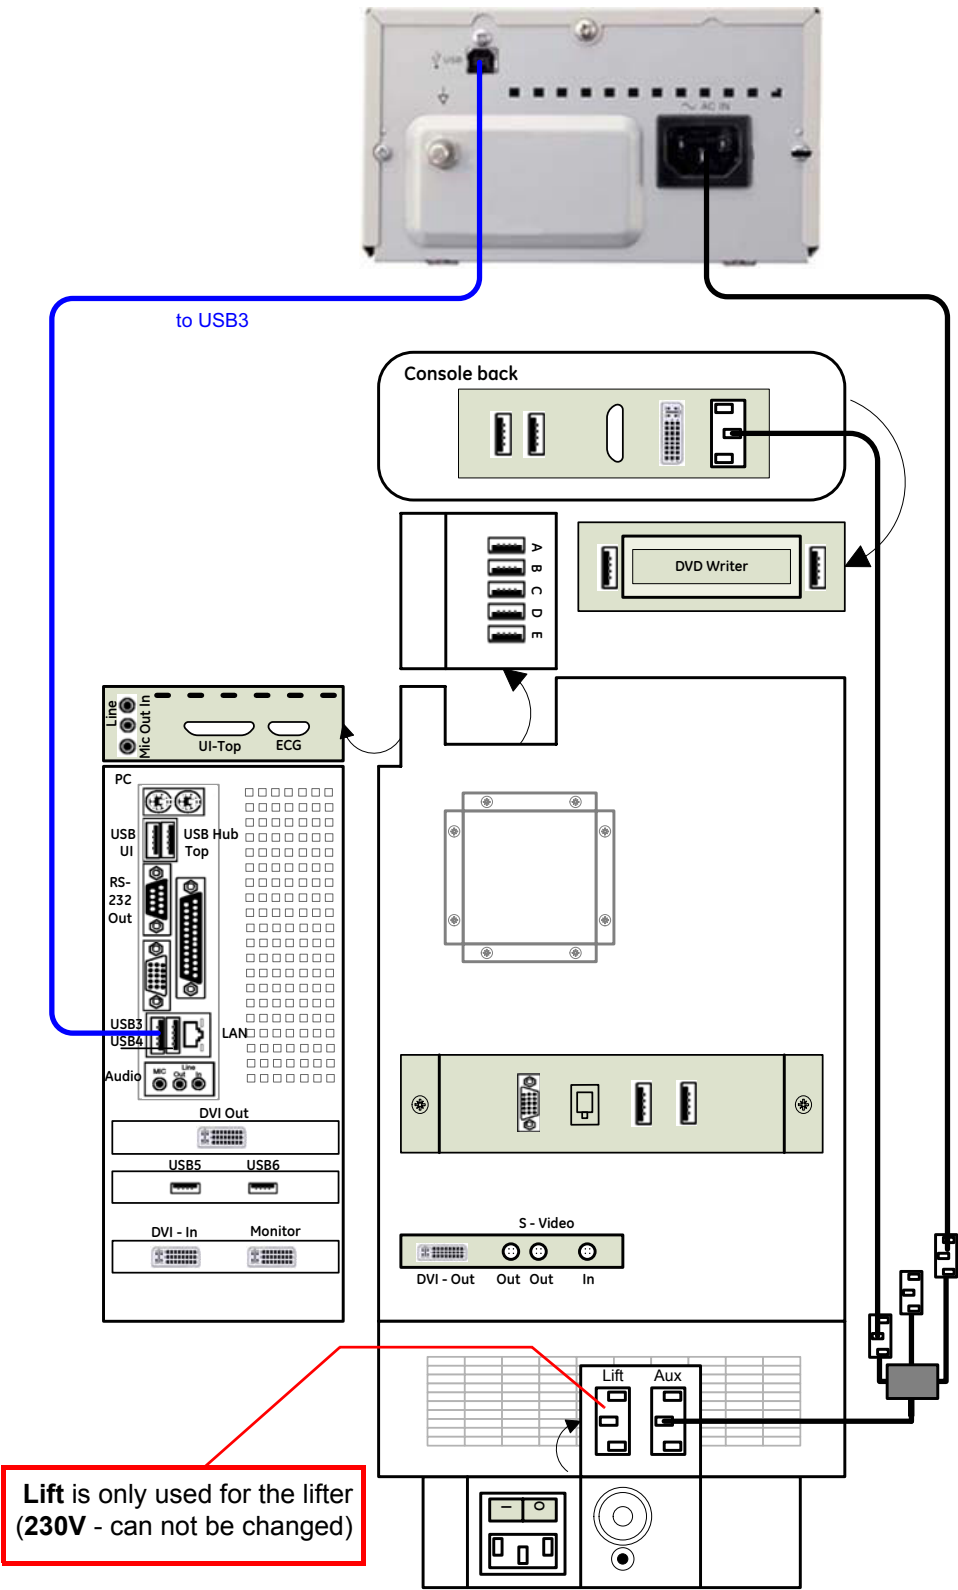

Figure 3-7 Black & White Printer connection (BT06: KONTRON PC-Motherboard installed)
- if “**Kontron**” PC-Motherboard is installed, see: Figure 3-7 on page 3-12